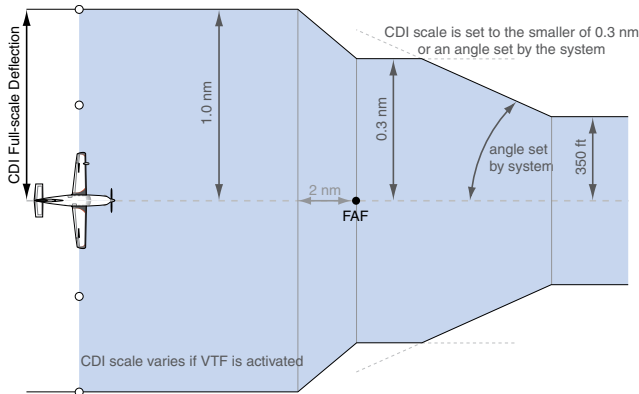

Figure 2-29 Typical LNAV and LNAV+V Approach CDI Scaling
- During **approach**, the CDI scale ramps down even further (see Figures 2-29 and 2-30). This transition normally occurs within 2.0 nm of the final approach fix (FAF). The CDI switches to approach scaling automatically once the approach procedure is activated or if Vectors-To-Final (VTF) are selected.